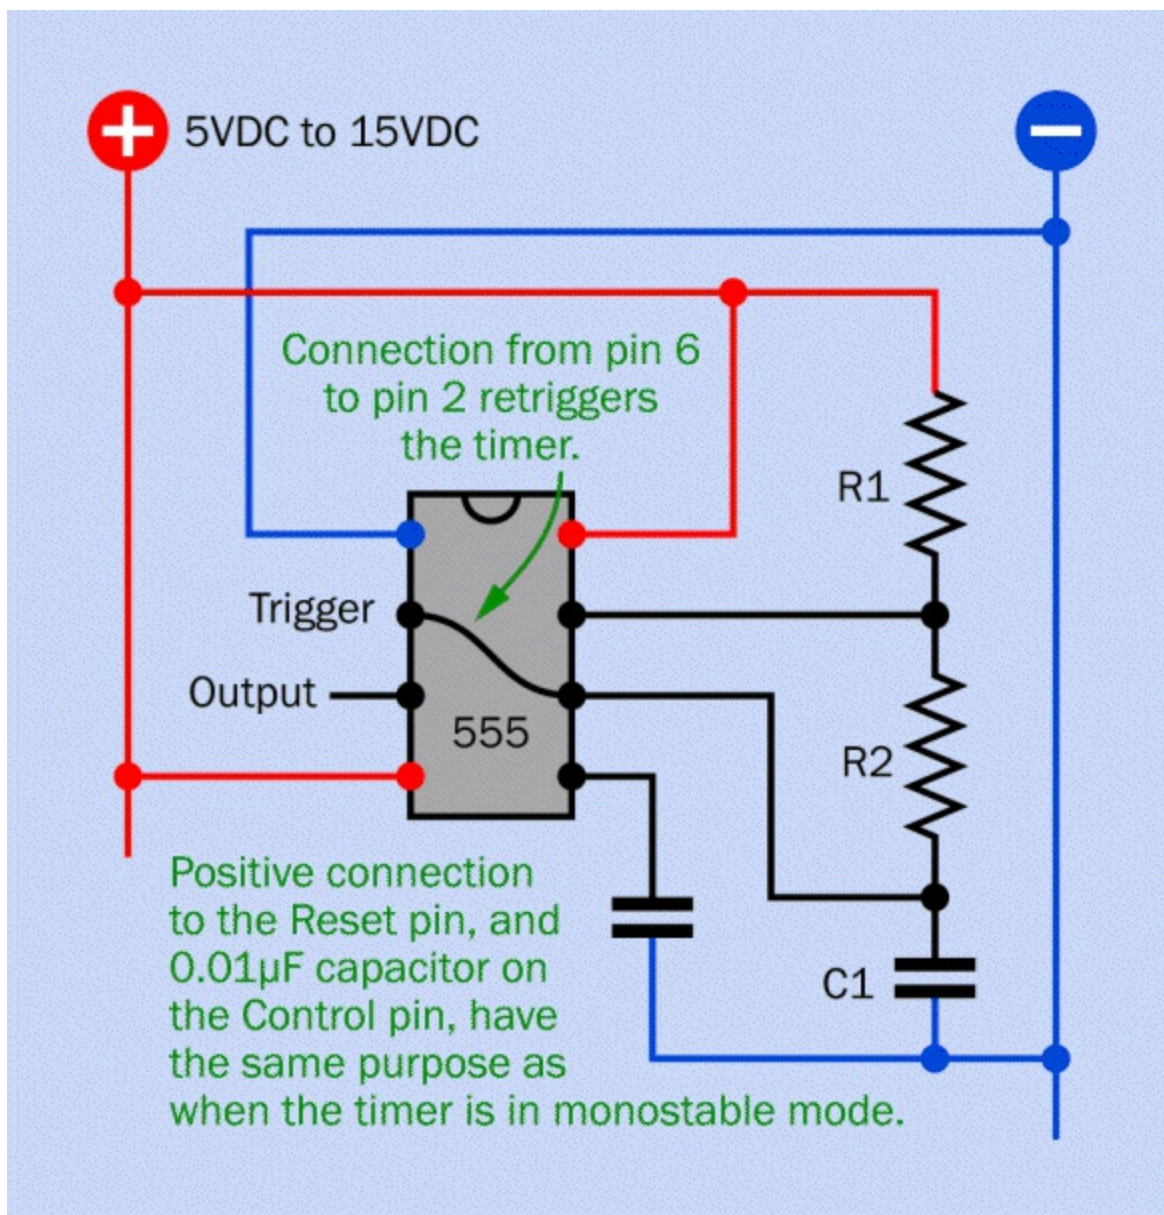

Figure 4-5. A simplified schematic showing the 555 timer functionality in astable mode.
**Figure 4-5** reminds you of the basic wiring to make the timer function in astable or free-running mode, creating a stream of pulses. In this configuration, the timer starts itself and continues running so long as (a) power is applied to it and (b) voltage on the reset pin is not allowed to go low.